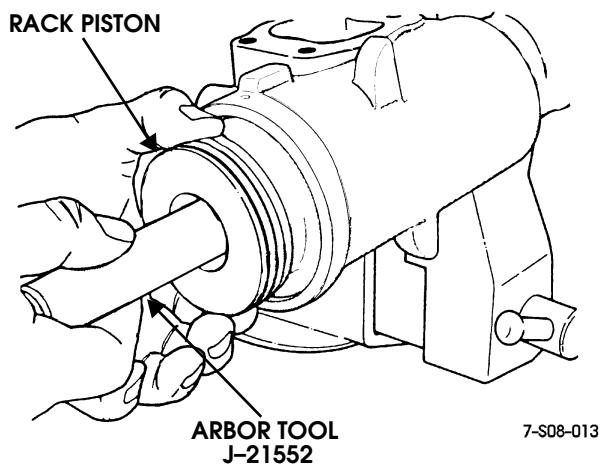

Figure 8-40: Rack Piston Removal
3. Insert arbor tool J-21552 into rack piston (Figure 8-40).
4. Hold arbor tool tightly in rack piston and turn stub shaft counterclockwise to push rack piston out of housing. Then remove rack piston, and arbor tool as assembly (Figure 8-40).